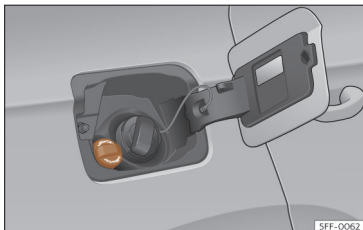

Fig. 204 AdBlue tank cap®.
- Open the tank cover >>> Fig. 204.
- Turn the SCR tank cap anti-clockwise >>> Fig. 204.